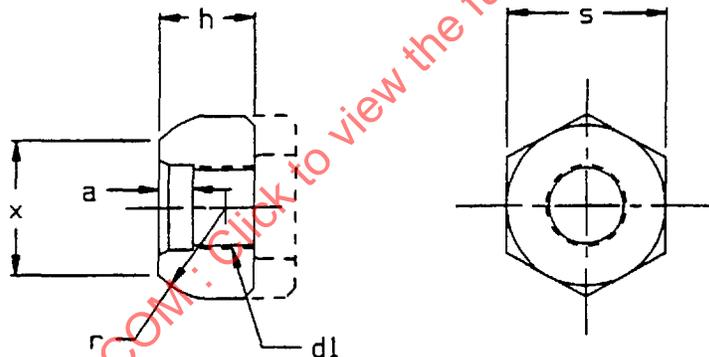

FIGURE 8—SINGLE OR OUTER DUAL BALL SEAT NUT FOR FERROUS WHEELS
6.3.1 DEFINITIONS OF FASTENER DIMENSIONS—Reference Figures 8, 9, 10, 11, 12, and 13:
6.3.2 DIMENSIONS AND TOLERANCES OF BALL SEAT NUTS (BSN) FOR INCH SYSTEM MOUNTINGS—All dimensions in inches. Reference Figure 8.